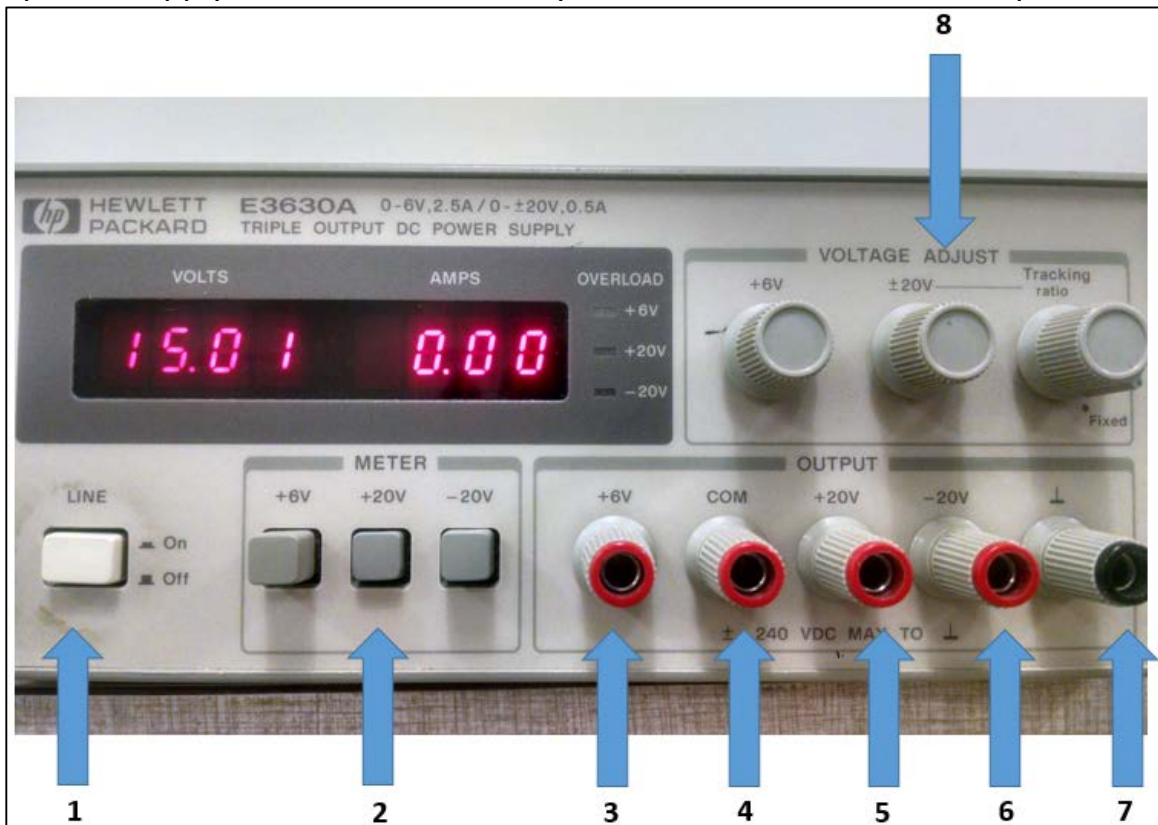

Fig. 1 – Hewlett Packard power supply with enumerated parts.
- It has three power supplies that are internally joined which produces three separate and adjustable DC voltages 6V, +20V and -20V (see Fig.1 - 3, 5 and 6).
- One output (Fig.1 – 3) varies from 0V to 6V and has a larger maximum current capacity when using with integrated circuits (ICs).
- The other two outputs (Fig.1 – 5, 6) produce \pm voltages that can be varied from 0V – 20V by using the $\pm 20V$ rotary nob (Fig.1 – 8) They are used to bias op amp circuits and/or transistor circuits.
- The input jack called COM (Fig.1 – 4) is shared by all three power supplies. So the + 6V output is +6V above common and the – 20V output is 20V below common, etc. In the following experiments throughout the semester, when asked to connect a pin to the ground of the power supply, it means to connect it to COM.
- The input jack on the far right (Fig.1 – 7) is normally not used and is connected to the ground wire in the AC power cord for the instrument.